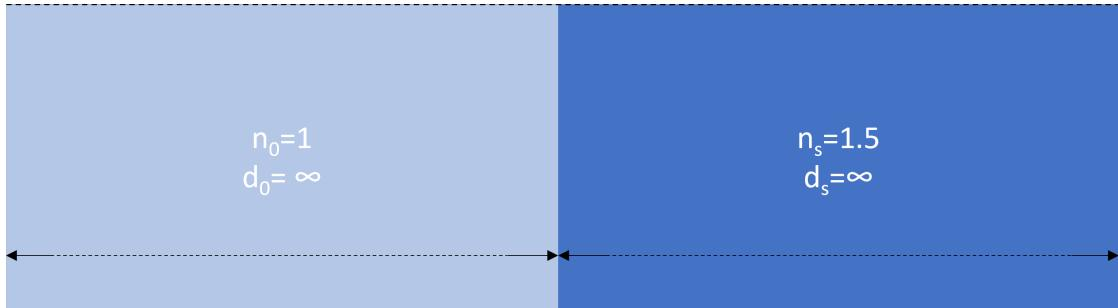

Figure 2.10: A single interface.
1. Plot the reflection from a single interface as illustrated in figure 2.10.